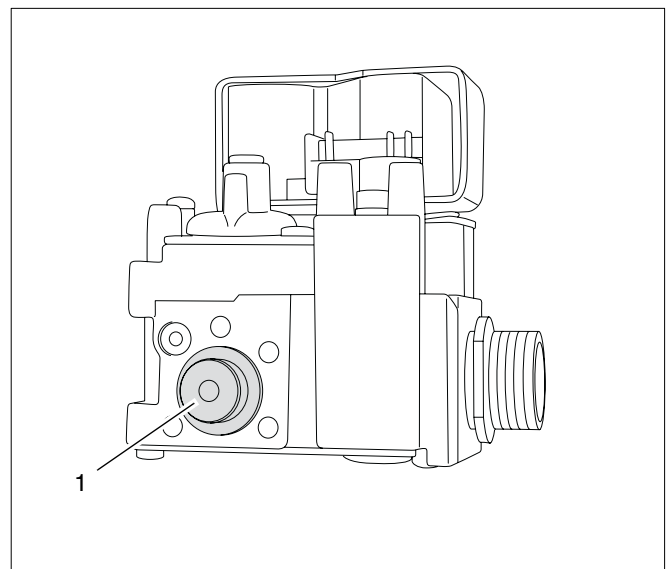

Fig. 87 Dismantling the gas orifice
- Remove the gas orifice from the gas control valve (see fig. 87, pos. 1).